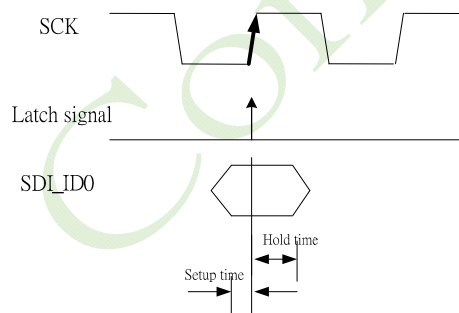

Figure 12. SPI Timing Spec
- Start and stop condition: A high to low transition of the SDIO line while SCK is high defines a start condition. A low to high transition of the SDIO line while SCK is high defines a stop condition. Please refer to Figure 12.